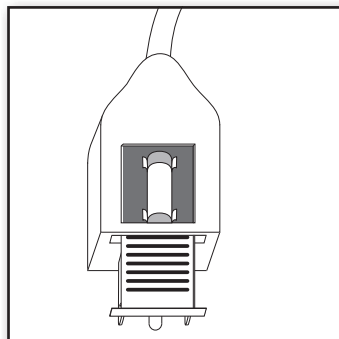

Figure 5
3. Carefully remove the fuse from the clips holding it on the top and bottom. Risk of fire. Replace fuse only with 5 Amp, 125 Volt fuse. Figure 5.